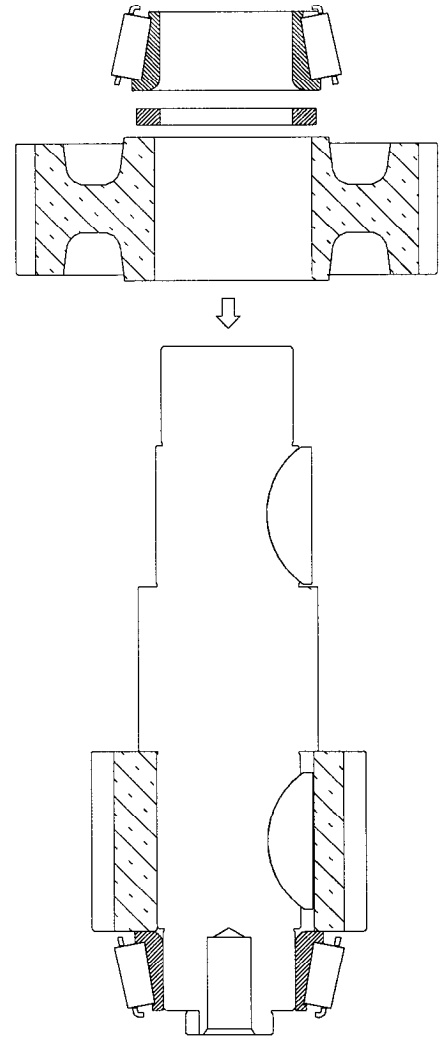

Fig. 44
4. Invert the shaft and install the intermediate direct drive gear, spacer and bearing cone. See Fig. 44.